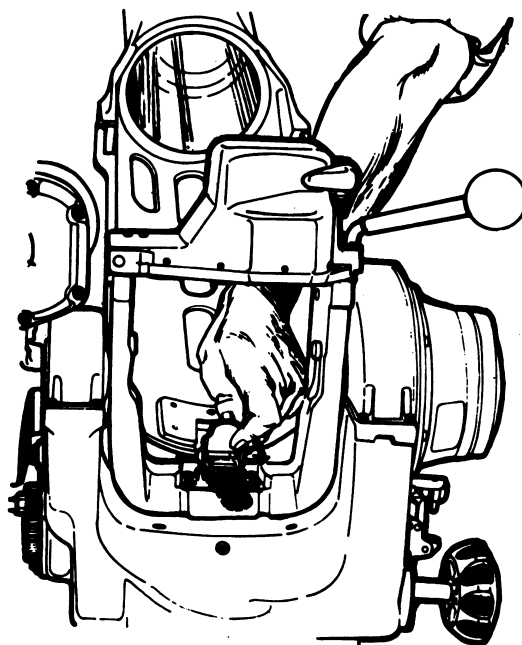

Figure 9. Launch tube latch.
- b. Hold the launch tube latch up, and lower the forward end of the launch tube (fig. 9).